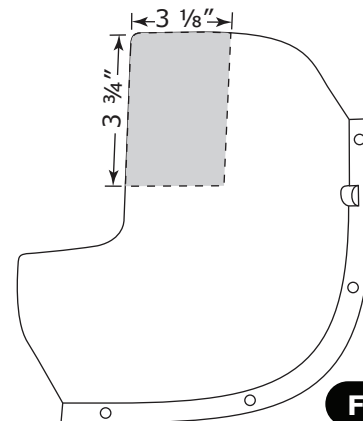

Figure 19
5. Modify passenger side kick panel fresh air cover as shown in Figure 19, below.